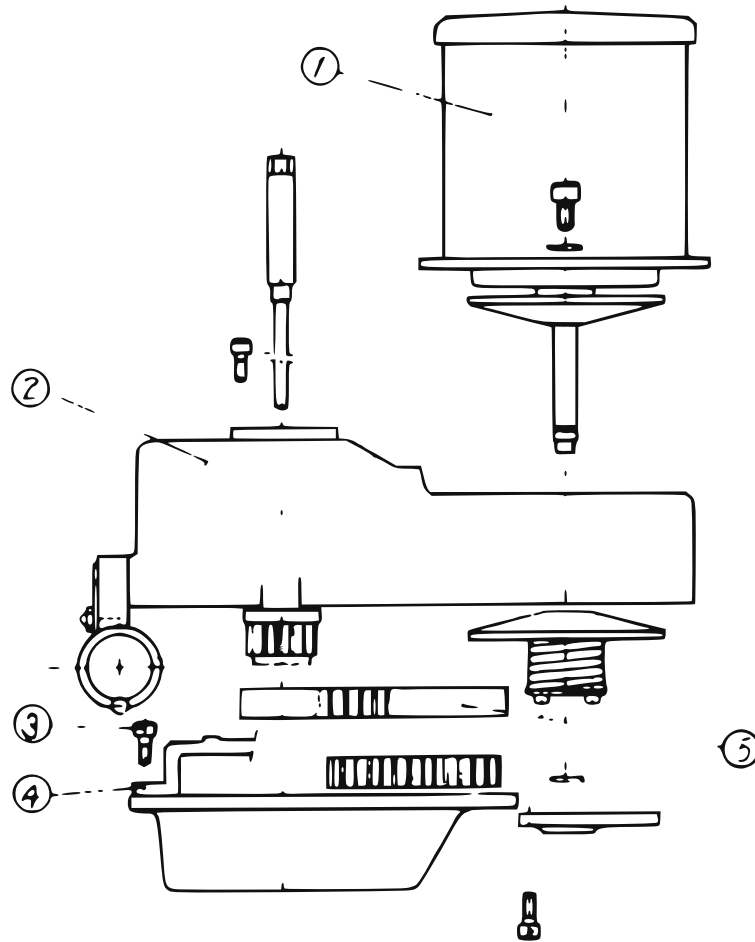

Figure 7-4: Timing belt replacement
- 3 Referring to Figure 7-4, remove the gear housing 1 and the four hexagon bolts 2.